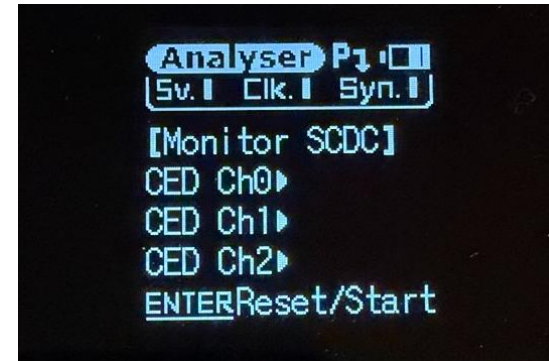

Figure 1
1. Using the scroll down button, navigate to the 3rd page. (figure 1)